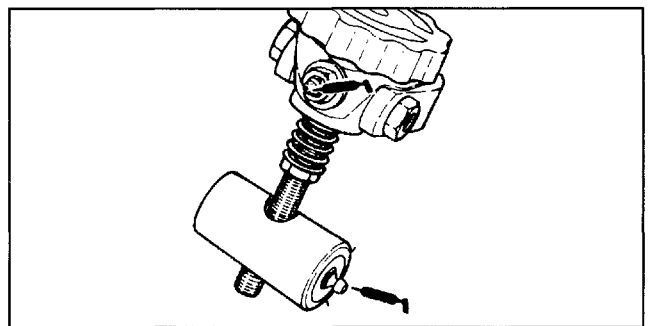
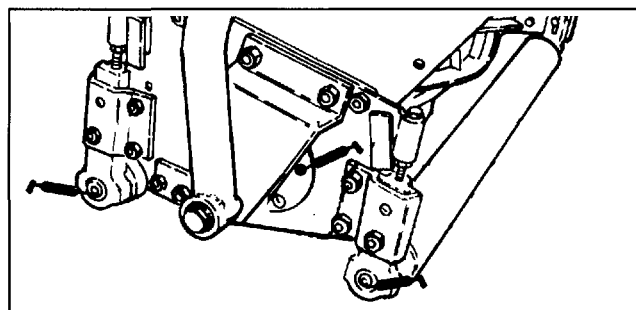

Figure 49
Figure 50
The cutting unit lubrication points are: Single point adjustment knob (2) (Fig. 49), reel flange bearing (2) and front and rear rollers (Fig. 50).